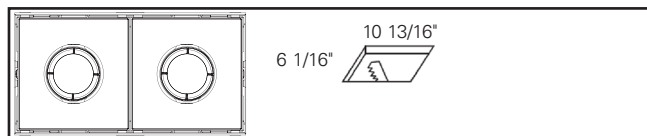

Figure 1.10.
- 2 Light: 10 13/16" X 6 1/16" (Figure 1.10)